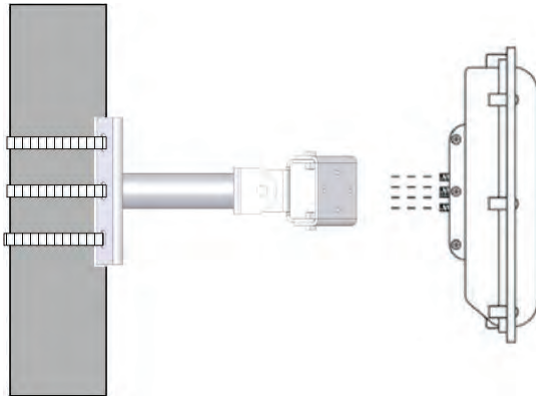

Figure 1.2 – Attach the Sensor to the Mount Bracket
- 3 Thread on the nuts and tighten (see Figure 1.2)